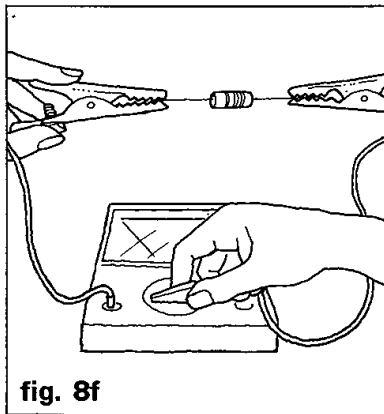

fig. 8f
In fig. 8f, the multimeter is being used to measure the value of a resistor. The two leads are being connected to the resistor. Two small crocodile clips are being used to make a good connection between the meter and the resistor. The function selector switch is being turned to the resistance range. The needle will indicate the value of the resistor on the ohm scale.
1. Fig. 8f – the value of a resistor *(measure)*
2. Fig. 8f – crocodile clips *(use)*
3. Fig. 8f – the function selector switch *(turn)* to the resistance range